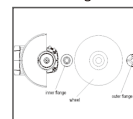

Fig3
1. Mount the inner flange onto the spindle, fit the wheel/disk on the inner flange and screw the outer flange onto the spindle (Fig 3).